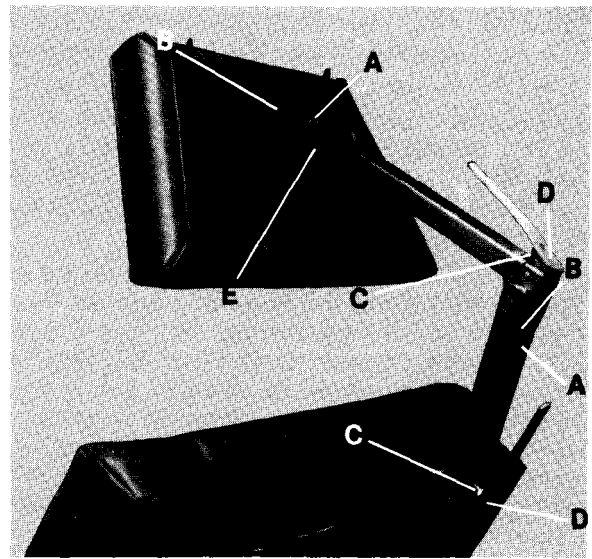

Fig. 1
For proper action the handle stop must be adjusted so that when the handle is pushed down for locking action, the handle reaches a point where it wants to lock itself by suddenly going over center. The proper position of the stop is just a fraction over center. The stop is adjusted by loosening the lock nut Item C, Fig. 1 and turning the set screw stop Item D, Fig. 1 with a 1/8" allen wrench. After adjustment, lock the stop screw with the lock nut.
Model 111: To adjust the holding action of the headlock, release the lock handle and loosen the lock screw Item A, Fig. 1, using a 3/32" allen wrench. With a 3/16" allen wrench or a 1/2" wrench, tighten the adjusting screw, Item B, Fig. 1, to obtain the greatest possible holding power without making the handle operation too difficult. Then with the handle in locked position, tighten the lock screw.
If quick change pin will not pull out of headlock, loosen lockscrew, Item A, Fig. 1 & 2, and loosen adjusting screw, Item B, Fig. 1 & 2, until pin will slide out. Readjust adjusting screw so that headlock will hold when locked but pin will slide out when unlocked.
- 1) Remove the (4) screws, Item E, Fig. 1, which mount the headrest to the brackets of the headlock.